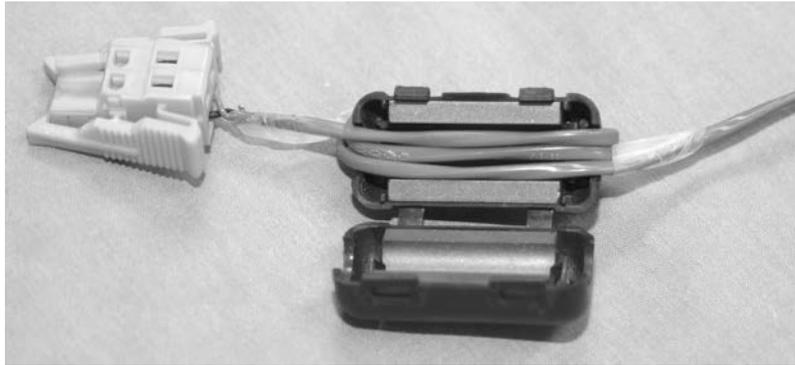
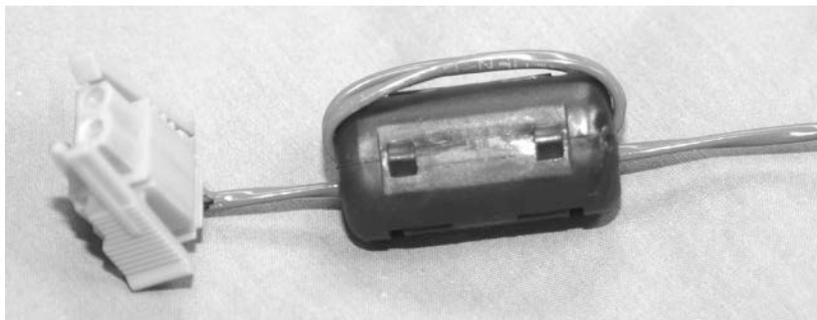

Figure 2. EMI Filter Installation (showing wire loops)
Figure 3. EMI Filter Installed
Step 3. Wrap the loose end of the cable around the outer surface of the filter and back through the center of the filter two times (totaling three runs inside the filter – see Figure 2), then snap the filter closed (see Figure 3).